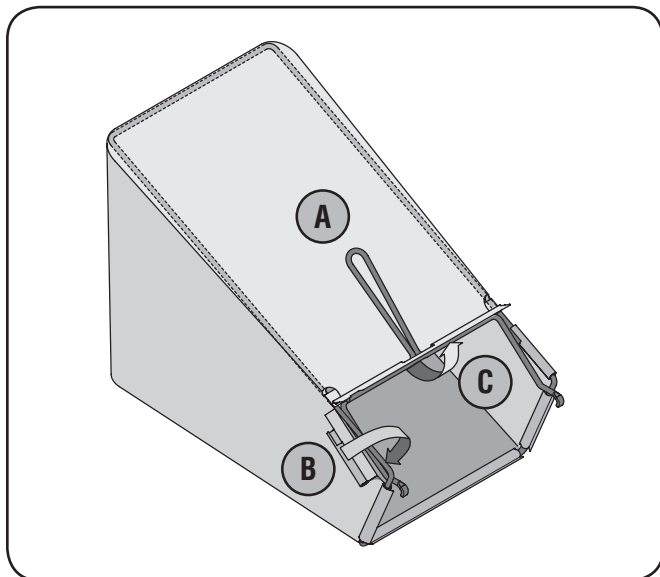

Figure 3-4
- a. Place bag over frame so that its black plastic side is at the bottom. See Fig. 3-4.